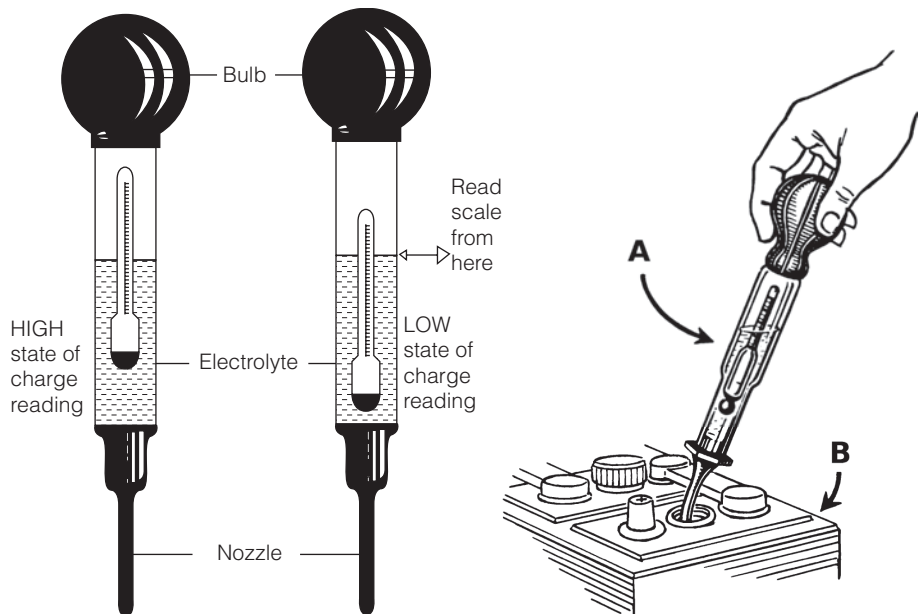

Figure 4.6 *Using hydrometers*
Hydrometers measure the ‘density’ (this is also called the ‘specific gravity’) of the sulphuric acid electrolyte in each cell, which is directly related to the state of charge of the battery. As lead-acid batteries are discharged, the sulphuric acid within each cell is converted to water, which has a lower density than sulphuric acid. Thus, discharged electrolyte becomes less dense as the battery’s state of charge decreases. Hydrometers contain a floating scale with specific gravity readings that measure this density (see Figure 4.6).
- 1 Draw sulphuric acid up into the hydrometer from the battery cell by squeezing the bulb while the nozzle of the hydrometer is placed in the cell (see Figure 4.6).
- 3 Read the specific gravity of the cell from the scale floating in the acid (see Figure 4.6). Some hydrometer scales do not give the specific gravity, but only indicate whether the battery is in a low, medium or high state of charge – scales giving numbers are preferable.